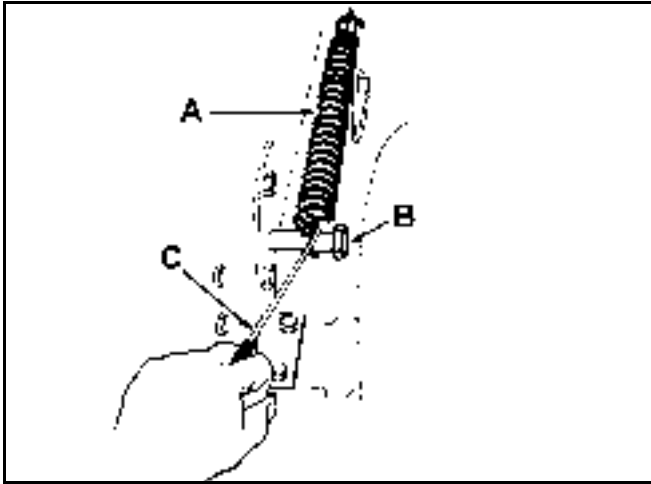

Figure 212
- Remove the height-of-cut lift assist spring from the retaining bolt (Figure 212), using the spring tool provided with the machine. The spring is between the frame and the right rear wheel.
- Move the height-of-cut lever (deck lift) into the "D" notch. Hook lift assist spring onto retaining bolt for storage (Figure 212).